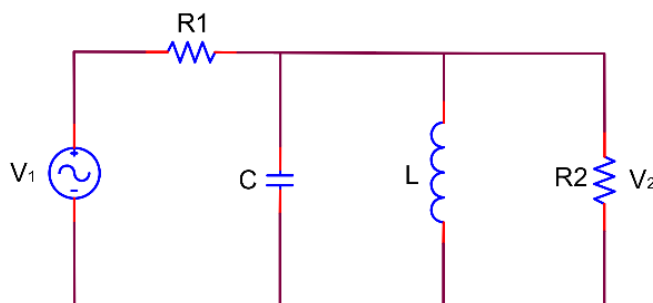

Figure 15.4
- Derive an expression for $H(j\omega) = \frac{v_2(j\omega)}{v_1(j\omega)}$ for the circuit of Figure 15.4.